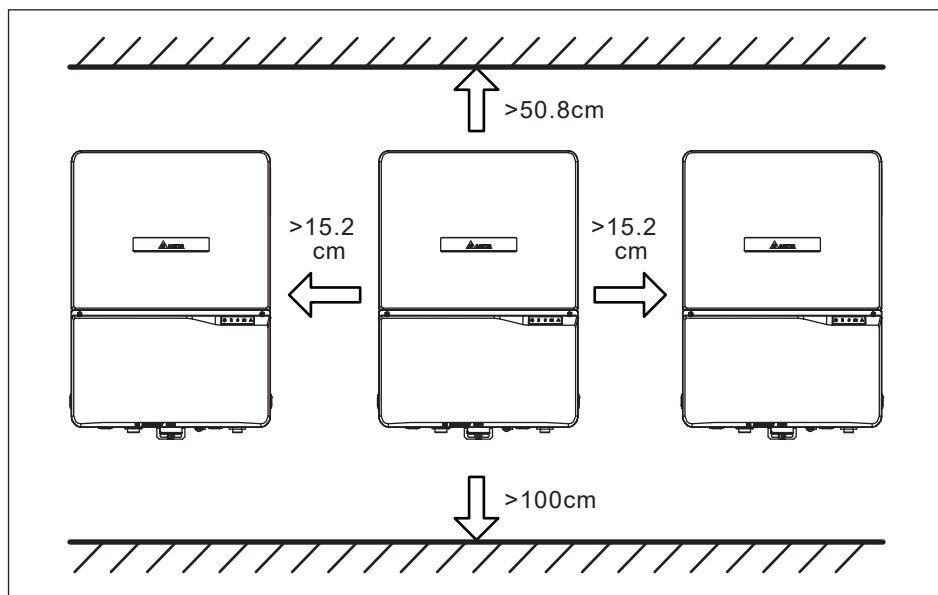

Figure 4-3 : Adequate installation gap
- Please leave an appropriate gap in between units when installing multiple solar inverter systems (refer to **Figure 4-3**).
Please ensure the spacing requirement to allow for sufficient convective cooling. It is essential to ensure sufficient space for product operation as shown in **Figure 4-3**.